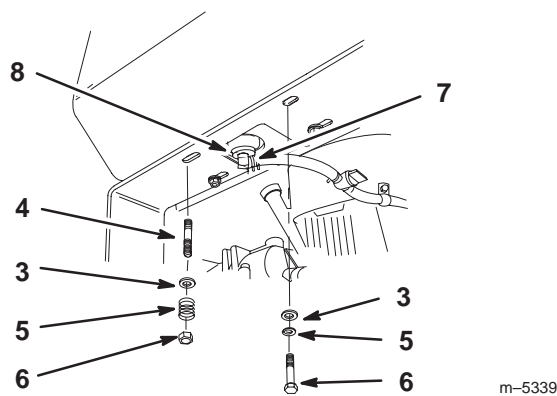

Figure 2
1. Align fuel tank to top of rear frame and secure fuel tank right side with 2 bolts (5/16 x 7/8 in. (22 mm)), 2 lock washers (5/16 in.) and 2 washers (5/16) (Fig. 2).
2. Secure fuel tank left side to frame with 2 studs (5/16 x 7/8 in. (22 mm)), 2 washers (5/16 in.), 2 springs and 2 locknuts (5/16 in.) (Fig. 2).
- Slide the hose clamp onto the fuel line (Fig. 2).
- Push the fuel line onto the fuel tank connection and secure it with a hose clamp (Fig. 2).